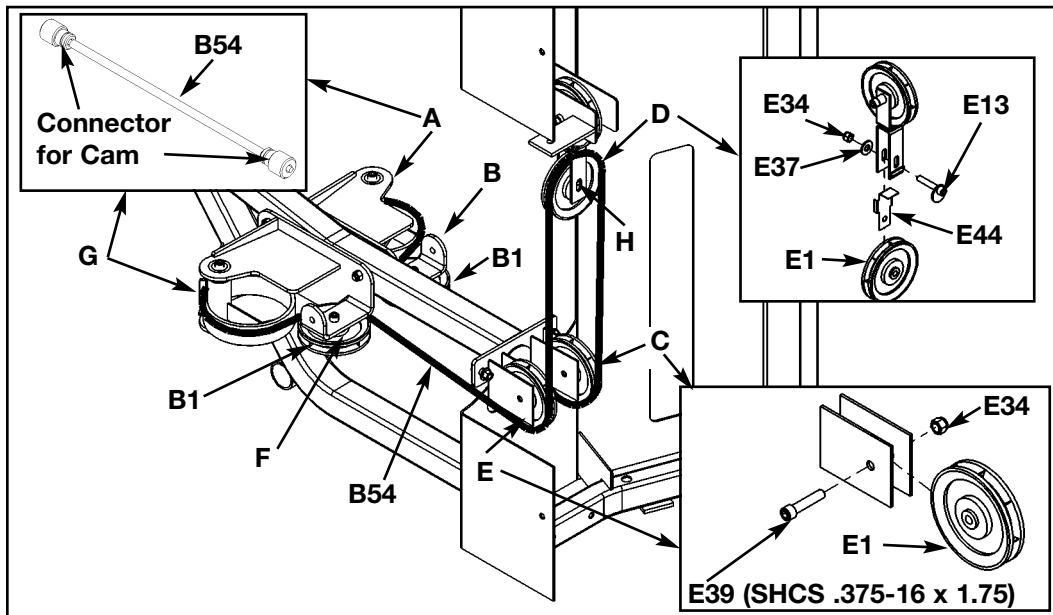

Figure 20
**12. Routing cam cable** (see steps 12A - 12H and Figure 20).
- A.** Place one end of cable (#B54) in the cable slot of (user position) right cam arm and route cable to first pulley (#B1). See Figure 20, letter A.
- B.** The first pulley (#B1) is already installed. Route cable (#B54) around the first pulley (#B1) as shown in Figure 20, letter B.
- C.** At the same time install second pulley (#E1) and route cable (#B54) using one SHCS .375-16 x 1.75 (#E39) and one nylon locknut (#E34). See Figure 20, letter C.
- D.** At the same time install cable retainer (#E44), third pulley (#E1) and route cable (#B54) using cam bolt (#E13), washer (#E37) and nylon locknut. See Figure 20, letter D.
- E.** At the same time install fourth pulley (#E1) and route cable (#B54) using one SHCS .375-16 x 1.75 (#E39) and one nylon locknut (#E34). Verify cable is resting between the pulley (#E1) and the retainer tab. See Figure 20, letter E.
- F.** The fifth pulley (#B1) is already installed. Route cable (#B54) as shown in Figure 20, letter F.
- G.** Finish routing cable and place cable end in slot. See Figure 20, letter G.